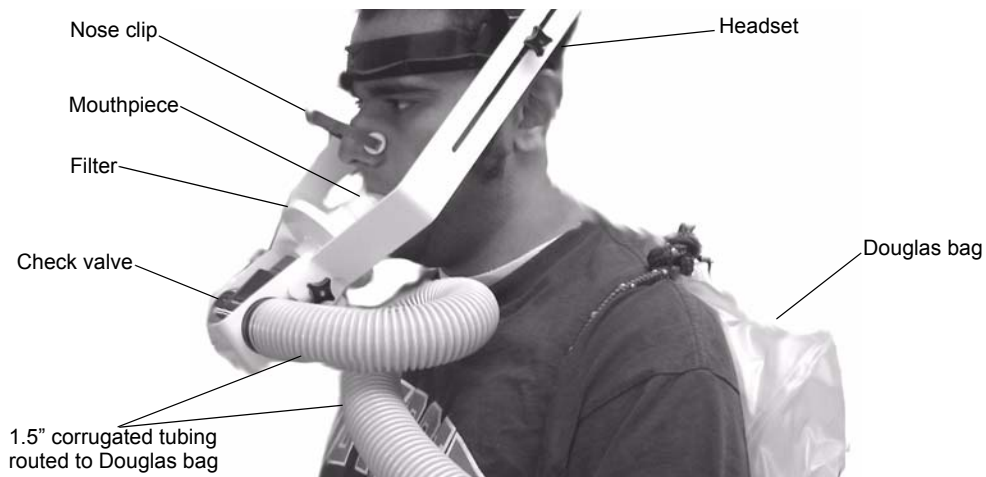

Figure 4-4. Astronaut wearing the gas collection apparatus
5. Help your astronaut don the Douglas bag and connected headpiece. Adjust the headgear and Douglas bag straps to fit comfortably. Figure 4-4 shows a student wearing the gas collection apparatus.